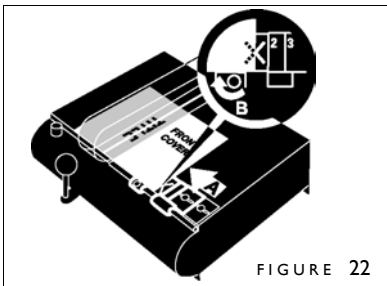

FIGURE 22
4. With the Centering Guide Locking Knob loosened, slide the Centering Guide under your cover until the right edge of the cover lines up with the middle of the X (Figure 22). Then tighten the centering Guide Locking Knob.